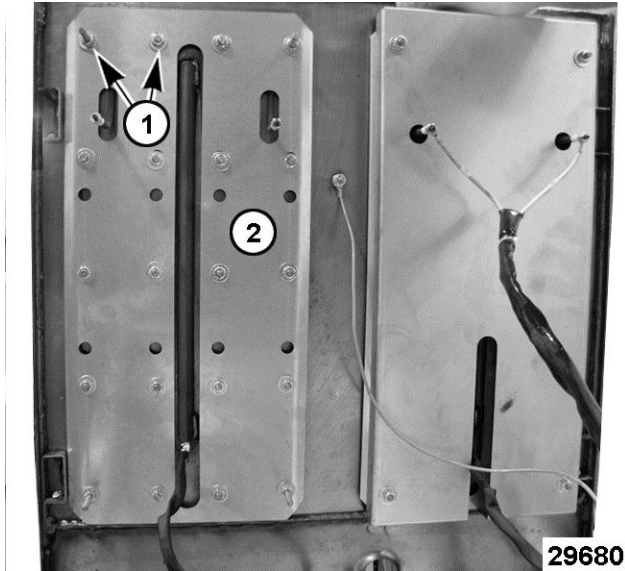

Fig. 26
6. Remove mounting nuts (1, Fig. 26) securing the griddle element clamp (2, Fig. 26).
7. Remove griddle element clamp (2, Fig. 26) from the element and griddle plate.